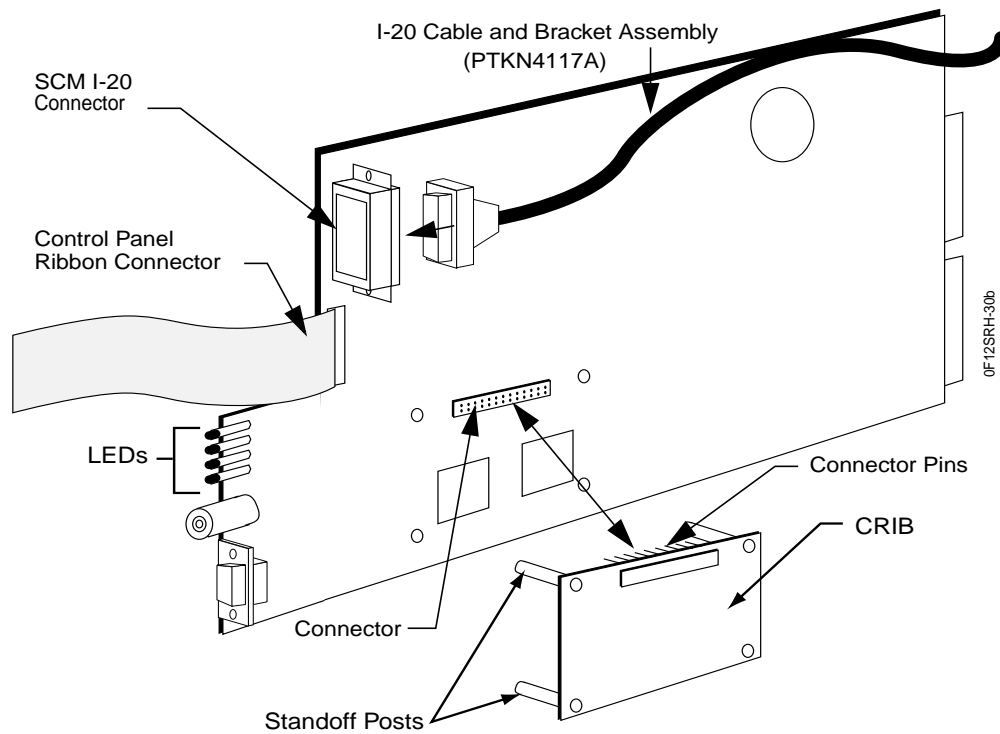

Figure 3: Station Control Module, Part Number PTYN4059B With I-20 Cable and CRIB
9. Using a screwdriver or equivalent tool, gently press the four posts holding the CRIB daughter board out of the SCM board (see Figure 3).
5. With the SCM halfway into the chassis, connect the I-20 cable (part 3086144G03 cable and bracket assembly) to the I-20 interface connector located on the SCM (see Figure 3). Ensure the SCM cable is properly seated by listening for a slight click as the connector is seated.
7. Connect the ribbon cable of the control panel to the connector on the front of the SCM (see Figure 3).